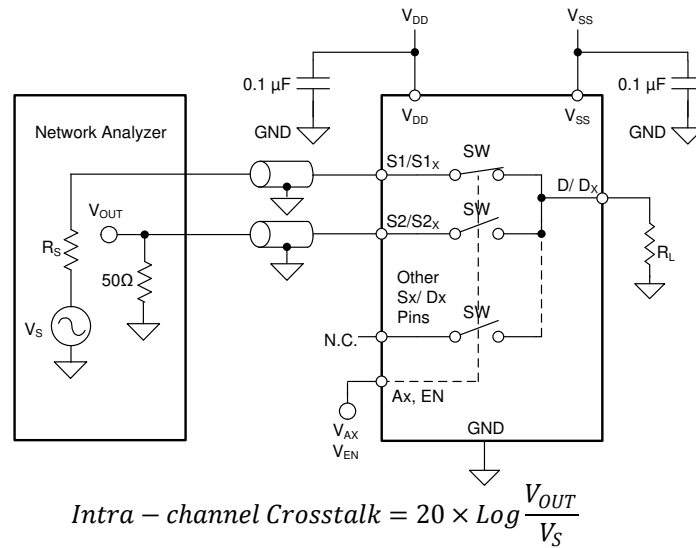

Figure 7-8. Intra-channel Crosstalk Measurement Setup
1. Intra-channel crosstalk ($X_{TALK(INTRA)}$): the voltage at the source pin (S_x) of an off-switch input, when a $1-V_{RMS}$ signal is applied at the source pin of an on-switch input in the same channel, as shown in Figure 7-8.